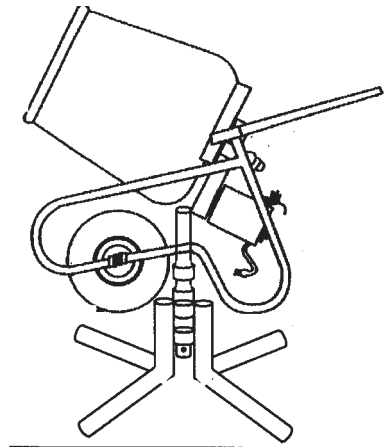

Figure 6 - Unit ready for mixing
5. Once mixer has been tilted upright onto the stand, the mixer should be tipped back into mixing position before operating. (Figure 6)